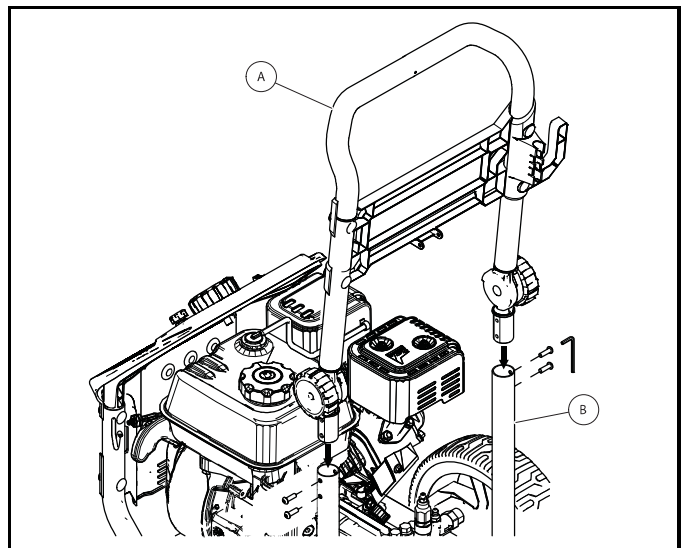

Figure 4-3. Attach Handle to Unit
3. Place handle assembly (A) onto cradle supports (B). Allow handle to slide into position. Locate the (4) screws and Allen wrench. Install the four screws using supplied Allen wrench as shown in (Figure 4-3).